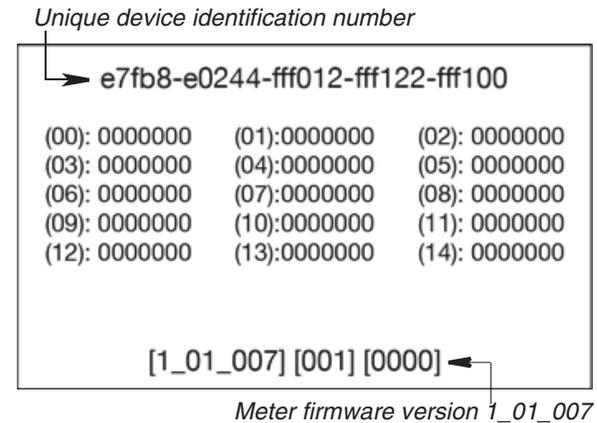

**FIG. 70**
5. The UTILITY MENU screen shown in FIG. 70 displays.